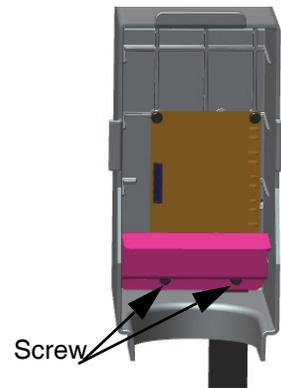

Figure 53.
- Turn around the keypad bezel and unscrew the the two screws as shown in Figure 53.